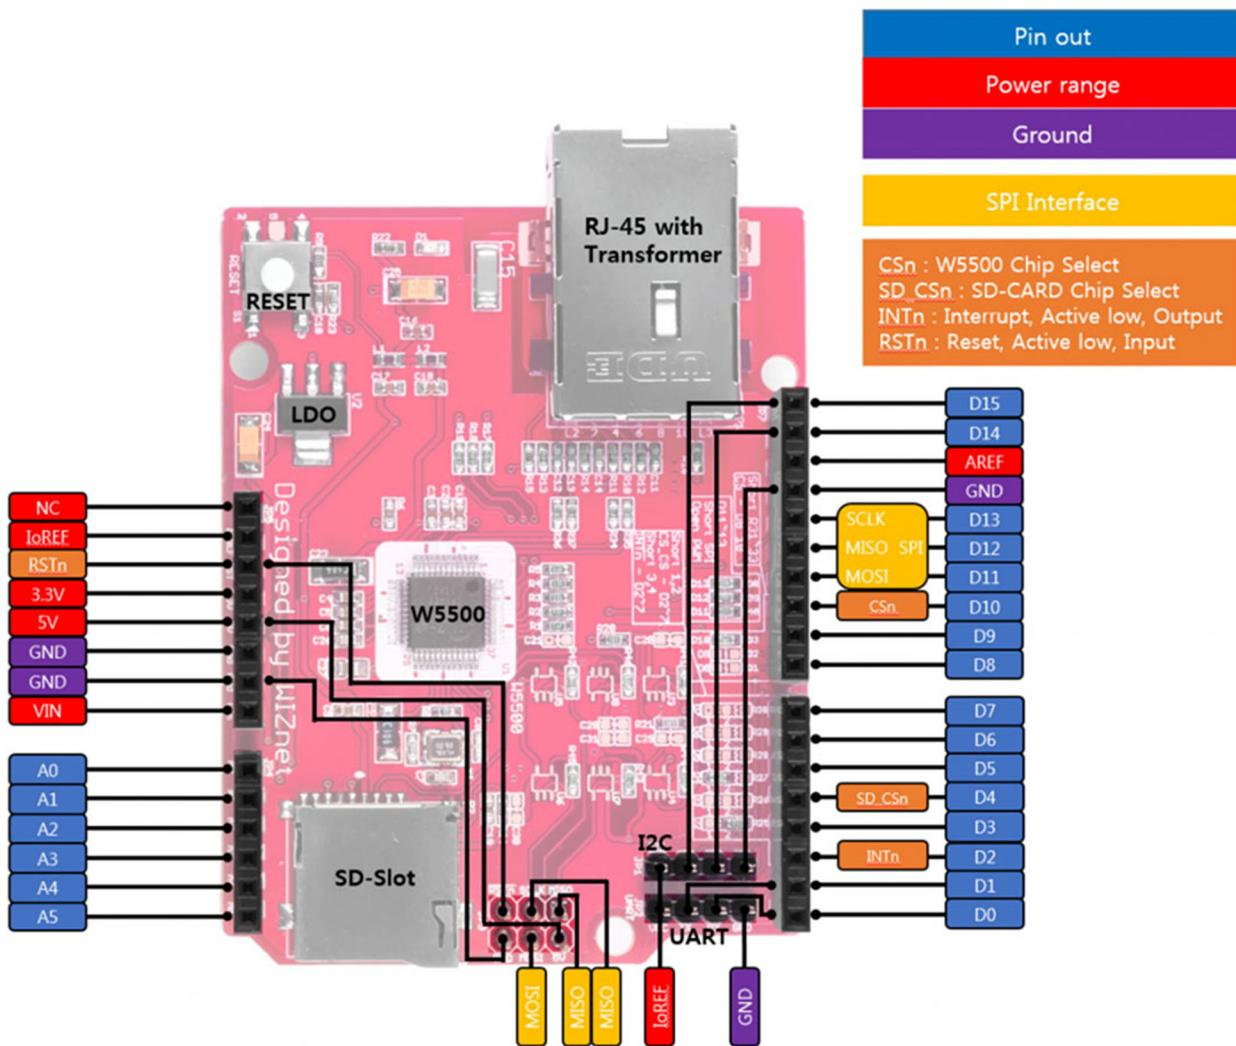

Figure 26.5: The pinout of the W5500 shield
As said before, the W5500 mates seamlessly with all nine Nucleo boards used in this text. The Figure 26.5⁸ shows the shield pinout. The SPI interface is routed to D13, D12 and D11 pins, and they correspond to the same pins of the SPI1 peripheral (apart for the Nucleo-F302R8 board where those pins correspond to SPI2 peripheral). The *Slave Select* (SS) pin for the W5500 pin corresponds to the Arduino D10 pin, while the SS pin for the SD card corresponds to the Arduino D4 pin.
Looking to Figure 26.5, you can see that the D2 pin plays an important role. The W5500 IC is designed to optionally assert low the INTn pin when several events related to the network interface (e.g., IP collision, etc.) or to the single socket (e.g., connection established, data received, etc.) happen. This feature allows to configure the corresponding MCU pin as `GPIO_MODE_IT_FALLING`, so that the corresponding IRQ fires when the IC asserts low the INTn pin. This allows to write down asynchronous applications, especially if you are using the `ioLibrary_Driver` in conjunction with an RTOS (for example, the ISR may use a semaphore to wake-up a sleeping thread that starts performing operation with a socket).